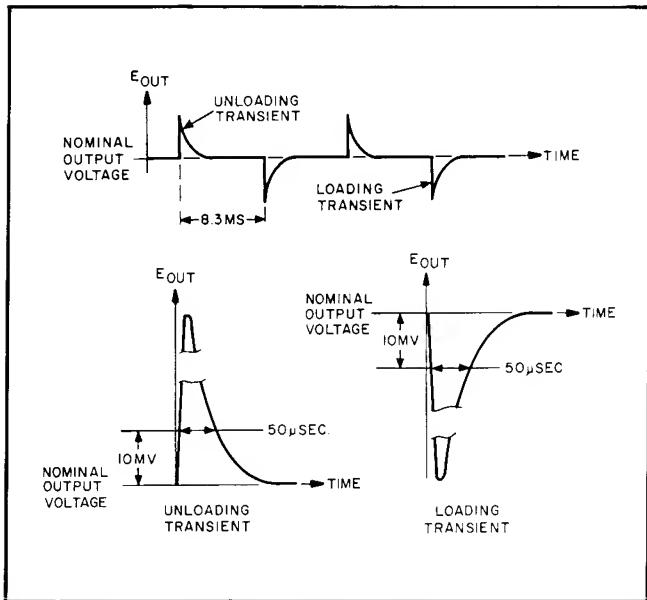

Figure 5-5. Load Transient Recovery Time Waveforms
k. Starting from the major graticule division representing time zero, count to the right 50 μ sec and vertically 10mV. Recovery should be within these tolerances as illustrated in Figure 5-5.